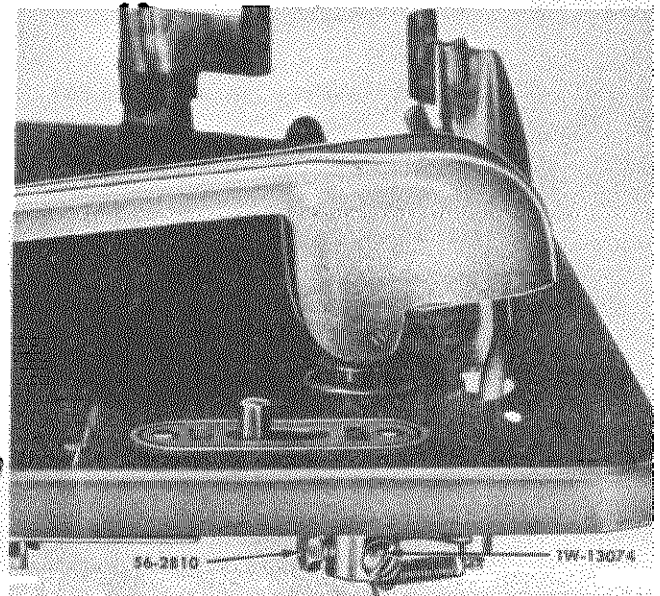

Figure 17. TONE-ARM-POST SETSCREWS
b. Loosen the cadmium-plated and bronze setscrews, figure 17, which hold the trip-lever assembly to the tone-arm post and remove trip-lever assembly.